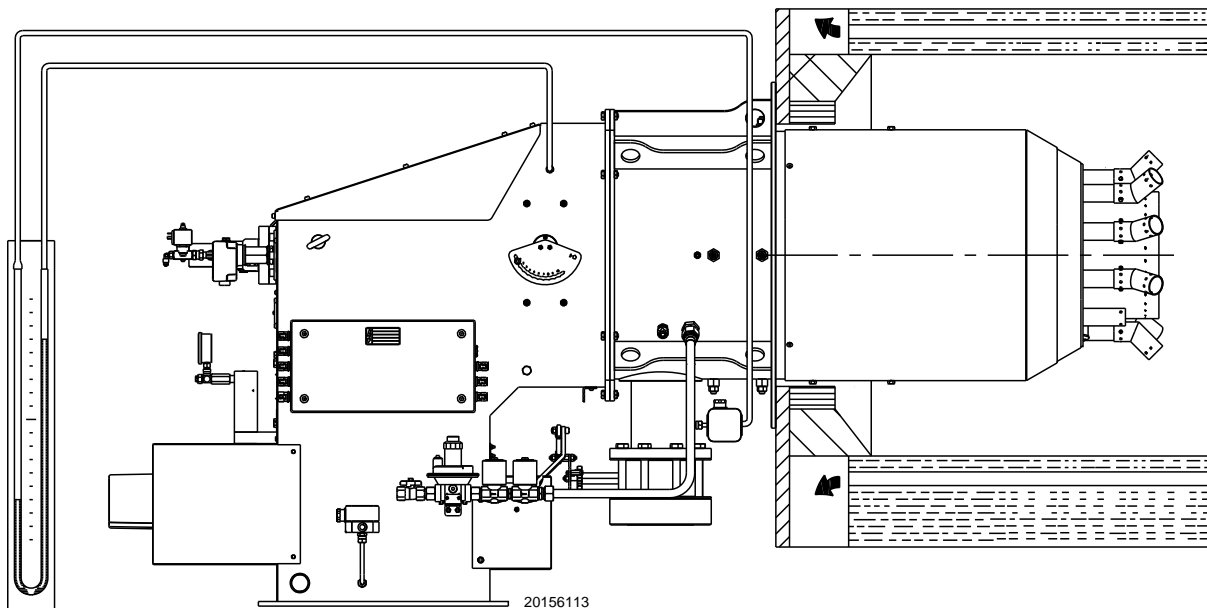

Fig. 32
- Fit a U-type pressure gauge or a differential pressure gauge (Fig. 32), with socket (+) on the gas pressure of the pipe coupling and (-) in the combustion chamber. The manometer readings are used to calculate MAX burner output.
The arrival of the gas at the pipe coupling is shown on the U-shaped pressure gauge (Fig. 32) or else with the help of a digital pressure gauge on the pressure test point under the pipe coupling.